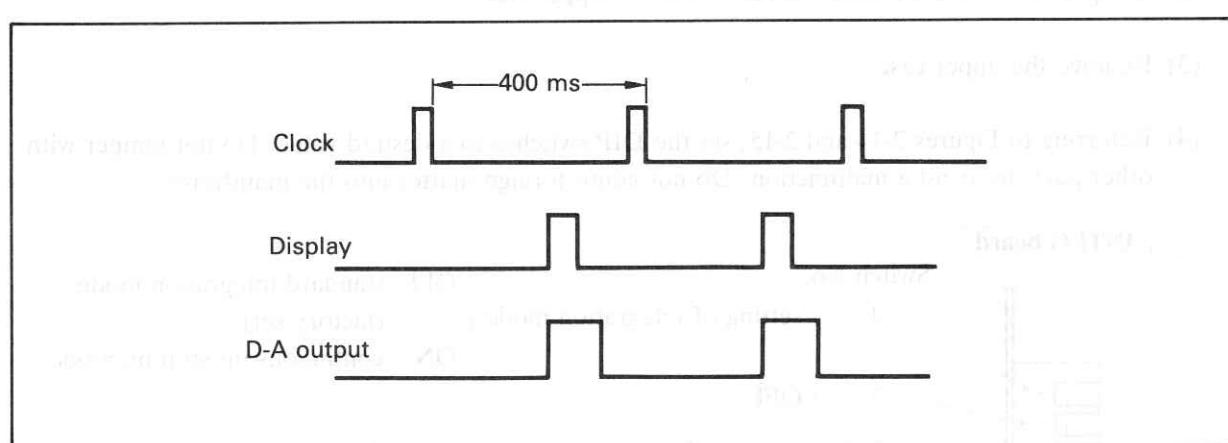

Figure 2-11. When hold is OFF.
- Figures 2-11 and 2-12 are time charts for D-A output.